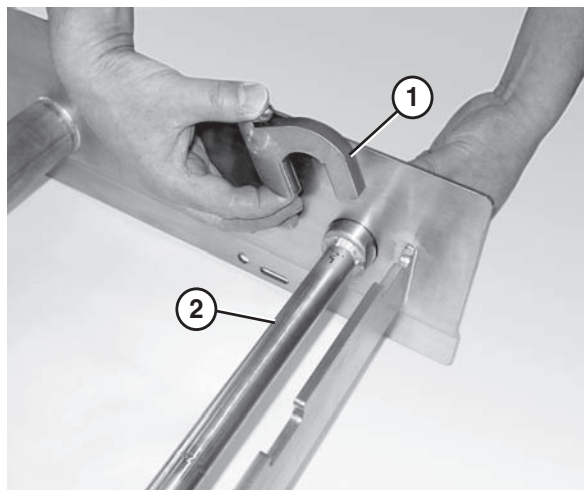

Figure 18
2. Attach the key stops (**Figure 18, item 1**) to the tip up shaft (**Figure 18, item 2**). The rounded end of the key stop should face the tail.